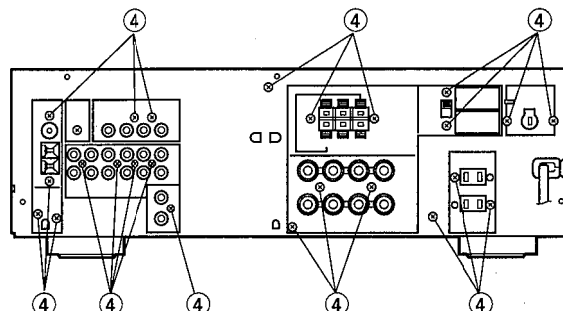

Fig. 2
Remove 23 (U, L models), 25 (R,T models) screws (④) in Fig. 2.